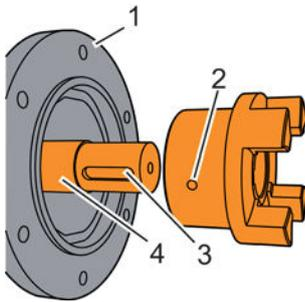

Fig. 87: Releasing the coupling half from the drive shaft
- 13. ➤ Unscrew the attachment bolt (Fig. 87/2) of the coupling half (Fig. 87/1) until the coupling half can be detached using a removal tool.
- 14. ➤ Pull the coupling half (Fig. 87/1) off the drive shaft (Fig. 87/4) of the extension pipe and place to the side.